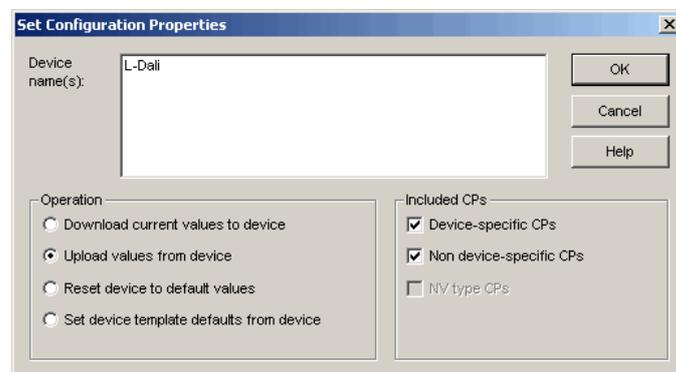

Figure 97: Set Configuration Properties in LonMaker TE.
2. This opens the dialog shown in Figure 97.